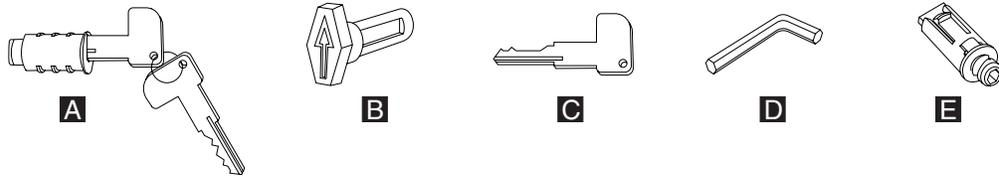

Figure 55. Lock accessories
Figure 55 shows the components of the lock insert assembly as follows:
1. The lock insert fits all of the way into the lock cylinder only when the slot in the bottom of the cylinder and the lug on the end of the insert are both in alignment. If necessary, insert the aligner tool (see Figure 55) into the lock cylinder and rotate it until you feel it engage the slot at the bottom of the cylinder, then turn the aligner tool until the arrow points up.
1. Insert the blank lock insert handle into the blank lock cylinder (see Figure 55).